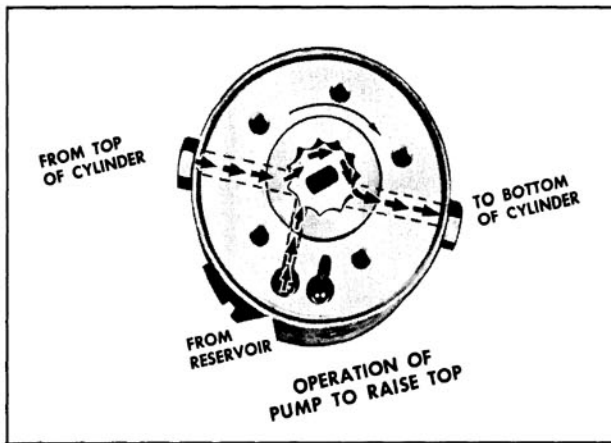

Fig. 16-420 Pump Operation to Raise Top
1. Raising the Top. When the red motor lead is energized, the motor drive shaft turns the rotors clockwise as indicated by the large arrow in Fig. 16-420. The action of the pump rotors forces the fluid under pressure to the bottom of each cylinder forcing the piston upward. This action causes the fluid above the piston in each cylinder to be forced into the pump, which recirculates the fluid to the bottom of the cylinders. The additional fluid required to fill the cylinder due to piston rod displacement is drawn from the reservoir.